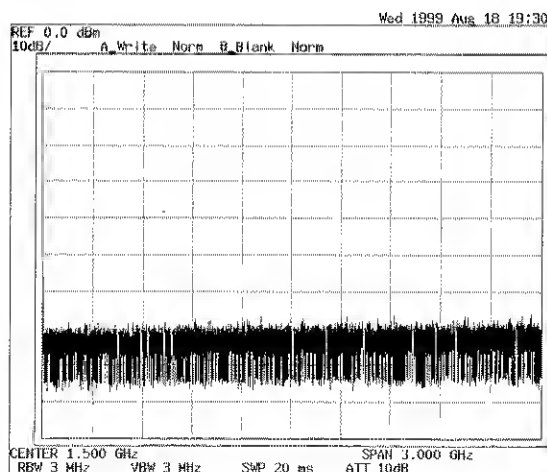

Figure 1-5 Screen Display after Self Tests have Completed
The spectrum analyzer performs the Initial test for approximately three seconds, then displays the startup screen as shown in Figure 1-5.
**CAUTION:** *There is a possibility that the screen display is different from the one shown in Figure 1-5, depending on previously saved conditions.*
The startup screen is displayed as shown in Figure 1-5.